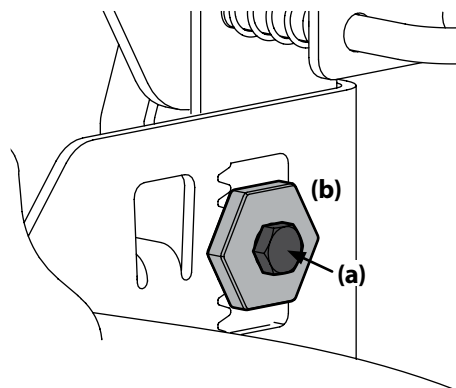

Figure 4-6
3. Loosen, but do NOT remove, the hex bolt (a) on the rear left deck hanger link. See Figure 4-6.
4. Using a wrench, raise or lower the left side of the deck by turning the adjustment gear (b). See Figure 4-6.